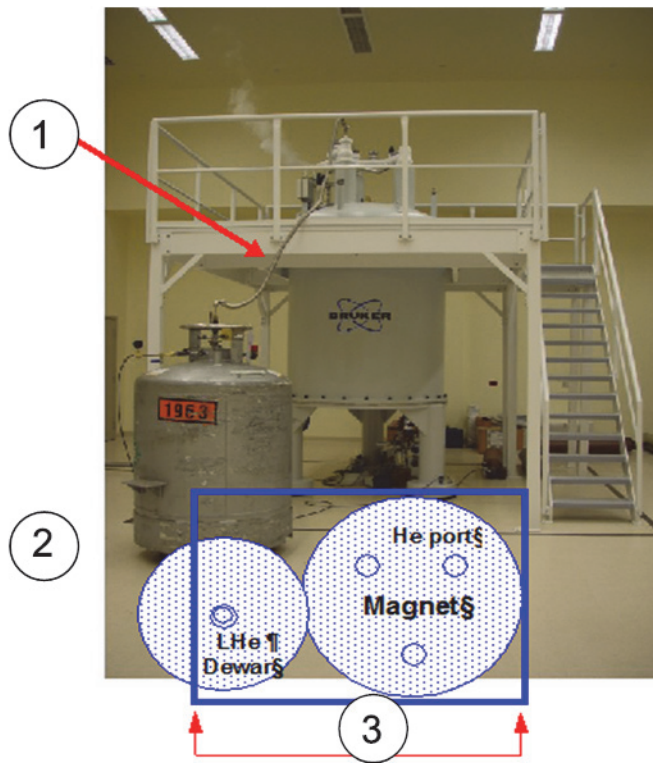

Figure 5.2: Helium Transfer Line Insertion
- The ceiling height requirements for the magnet installation and cryogen refills do not need to be met over the entire NMR room. Figure 5.2 illustrates that the height requirements need only be met immediately above the magnet, over an area to allow for assembly of the lifting system (if applicable), and over an area to allow for insertion of the helium transfer line.